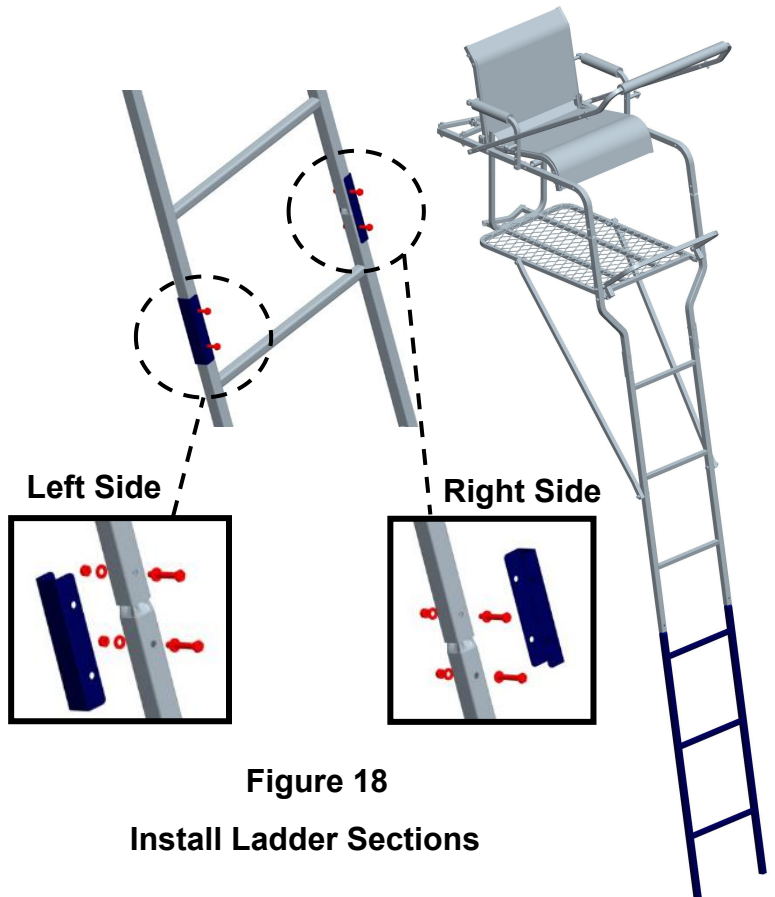

Figure 18
Locate #3 Ladder Sections (#14). Slip the male end of the #3 Ladder Section (#14) into the female end of the #4 Ladder Section (#13) first; Then secure 3 Ladder Sections with two U-Brackets (#19) using four (4) M6x40 Bolts, eight (8) Steel Washers and four (4) Locknuts as shown in Figure 18.